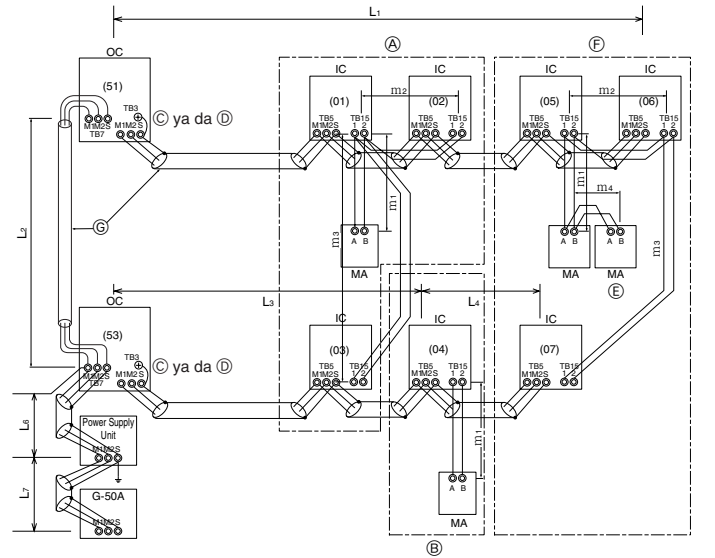

Fig. 6-3
■ MA Uzaktan Kumanda (Fig. 6-3)